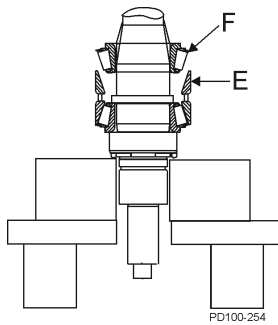

Figure 48 - Install Upper Cup & Upper Cone
7. Place the upper cup (Figure 48, item E) on top of the outer spacer.
8. Lubricate the remaining upper cone and roller assembly (Figure 48, item F) with oil or grease and slip it over the shaft with the roller radius facing up. Press it onto the shaft and into the upper cup.